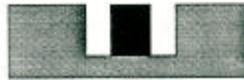

Figure 1
- c. Sight Alignment. To properly align sights, the shooter must first use the proper eye. A right-handed shooter should use the right eye, while a left-handed shooter should use the left eye. When aligning the sights, the shooter first finds the front sight and brings it into alignment with the rear sight. The top surface of the front sight must be level with the top of the rear sight and the front sight centered in the rear sight (see figure 1).